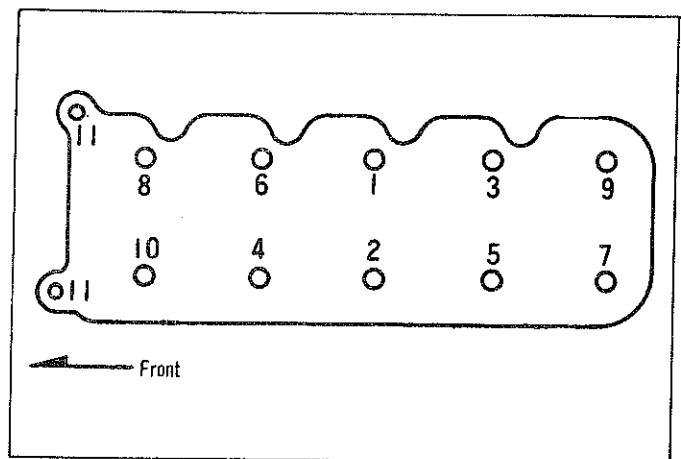

Fig. 8—Cylinder head bolt tightening sequence
(3) Fit the cylinder head gasket to the cylinder block locating it correctly on the dowel pins.
(4) Install the cylinder head locating it on the dowel pins. Do not slide the head across the dowel pins as damage to the head surface may occur. Care must also be taken to avoid dislocation of the camshaft sprocket from the timing chain.
(5) Tighten the cylinder head bolts in three stages to the specified torque and in the sequence shown in Fig. 8.
(6) Install the camshaft sprocket onto the camshaft, rotating the camshaft to align the dowel pin to the sprocket. Ensure that the sprocket mating mark is aligned with the timing chain **plated** link. Temporarily tighten the sprocket bolt.